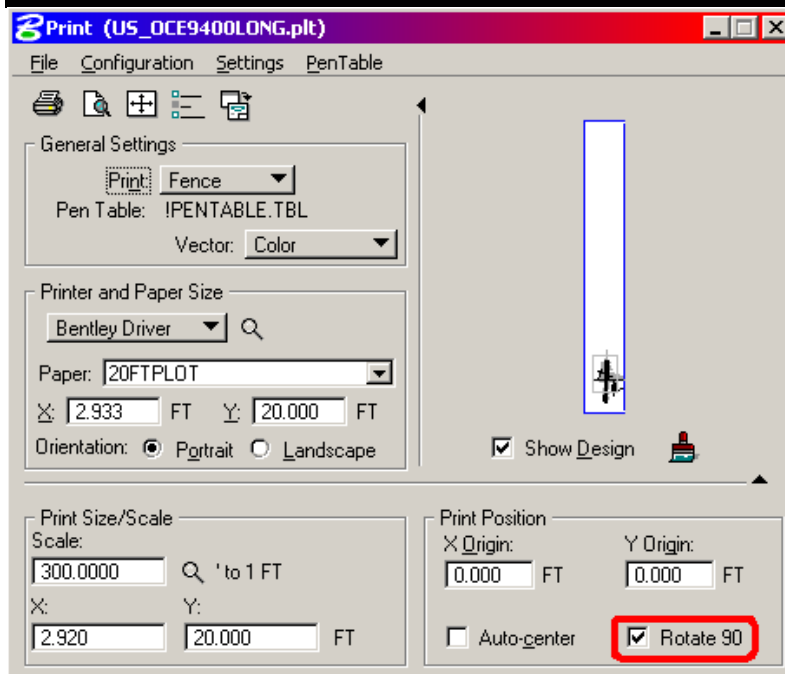

Figure 1-47: Print Rotate 90
- Based on the rotation you used in your view, it may be necessary to toggle the **Rotate 90** on or off to plot correctly (Figure 1-47).